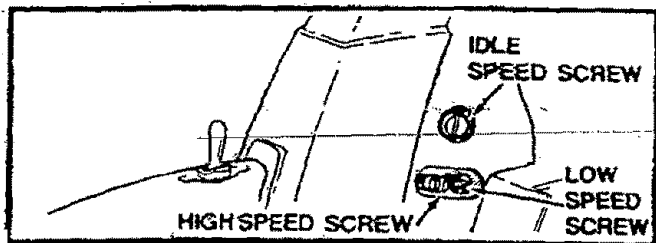

Figure 41
- Locate the three (3) carburetor adjusting screw openings to the right of the air filter cover. Figure 41.